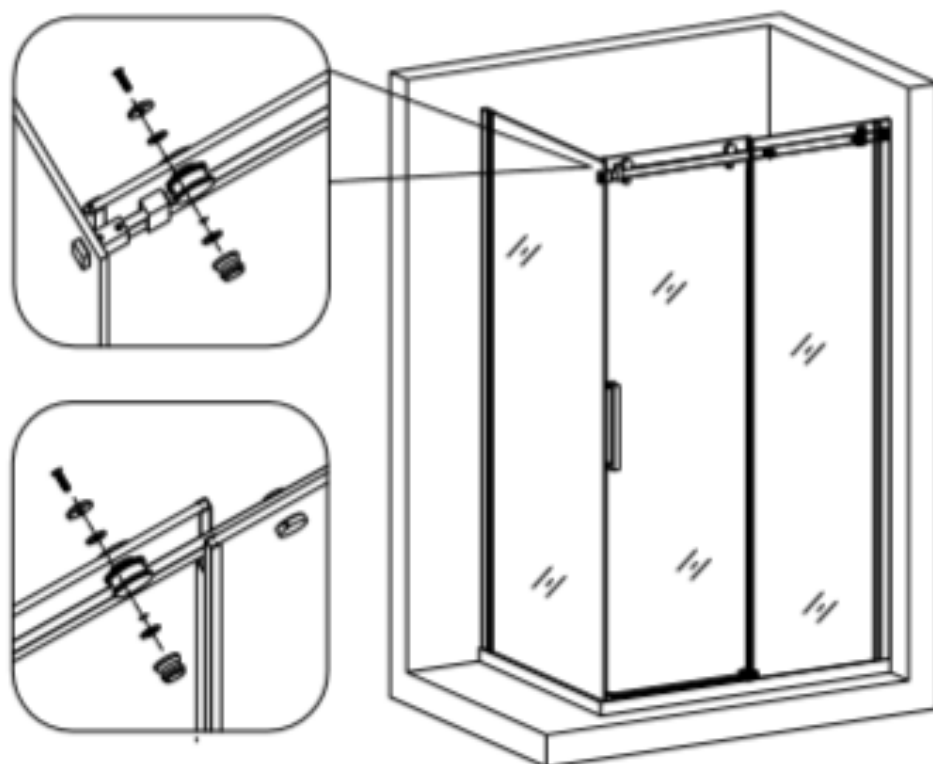

Fig 14
13. Install the **safety pin (13)** to glass door, then adjust the safety pin and glass door at the same horizontal position. (Fig 14)